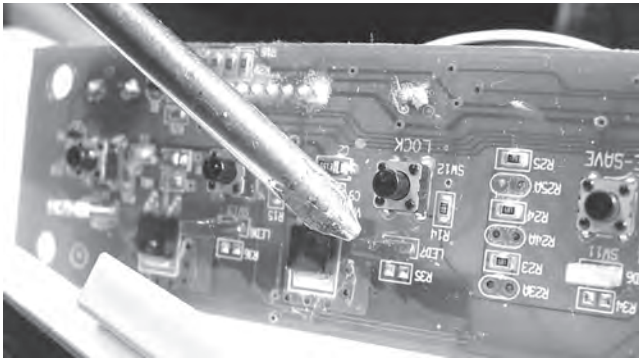

Figure 1
1. Locate the red and white LED lights located on the user interface board, see figure 1.